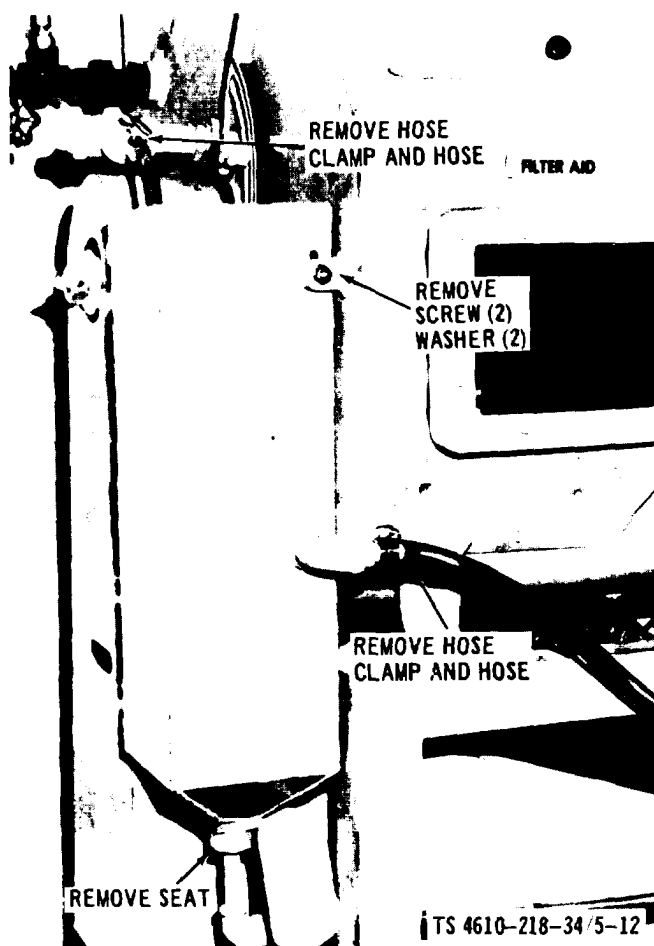

Figure 5-12. Chemical Slurry Feeder Diatomite Dilution Tank, Removal and Installation
b. Removal. Remove the diatomite dilution tank as illustrated in figure 5-12.
(1) Clean the diatomite dilution tank with dry cleaning solvent P-D-680.
(2) Inspect the tank for cracks, breaks, and other damage.
(3) Replace a damaged or defective dilution tank.
d. Installation. Install the diatomite dilution tank as shown in figure 5-12.